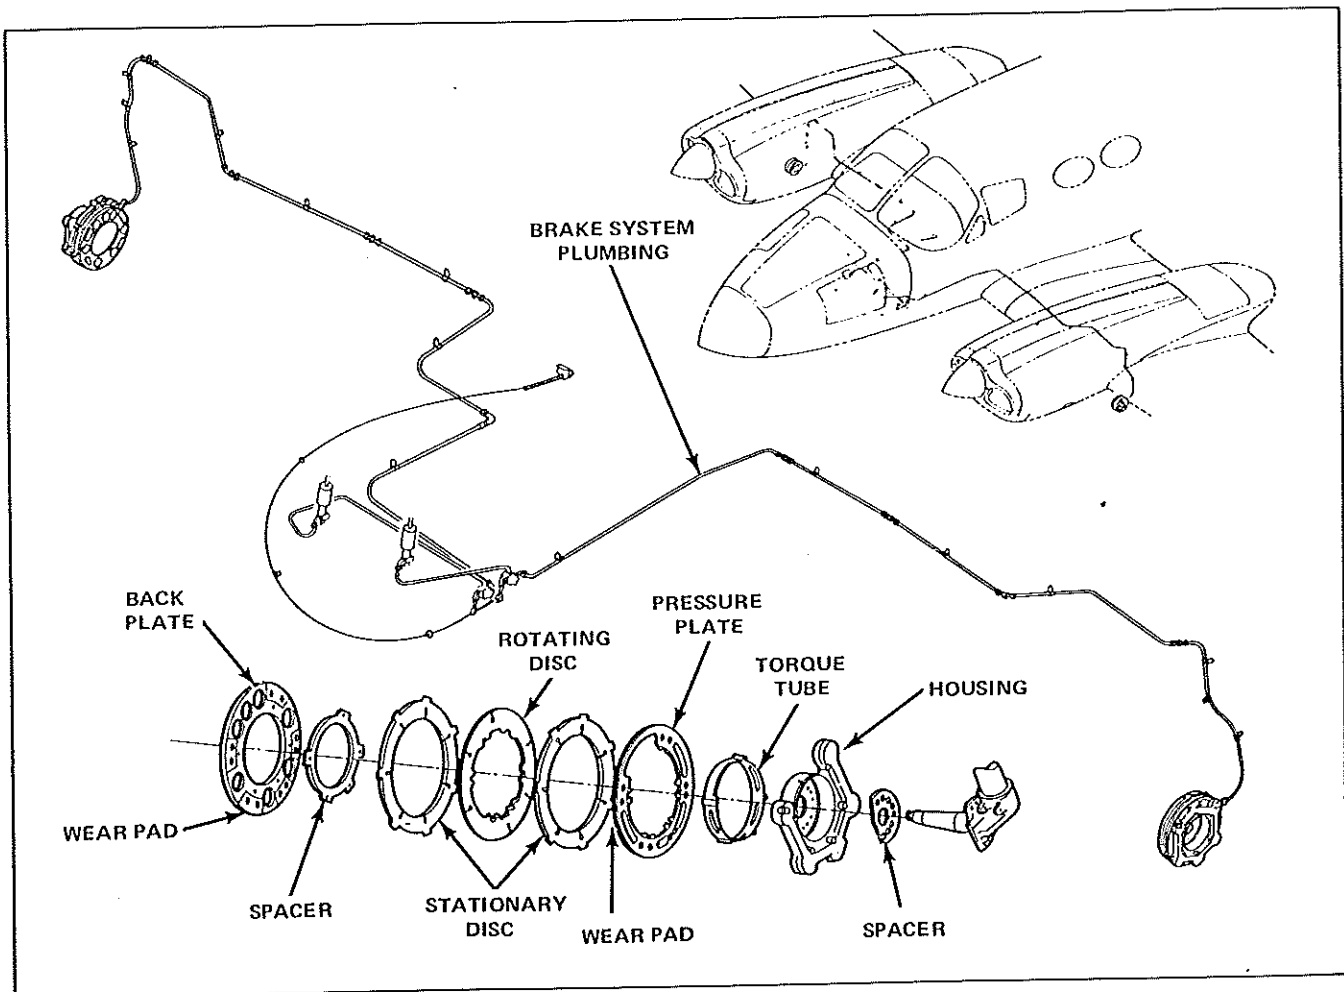

Figure 19 Landing Gear Brake System
1. Check brake system plumbing (Figure 19):